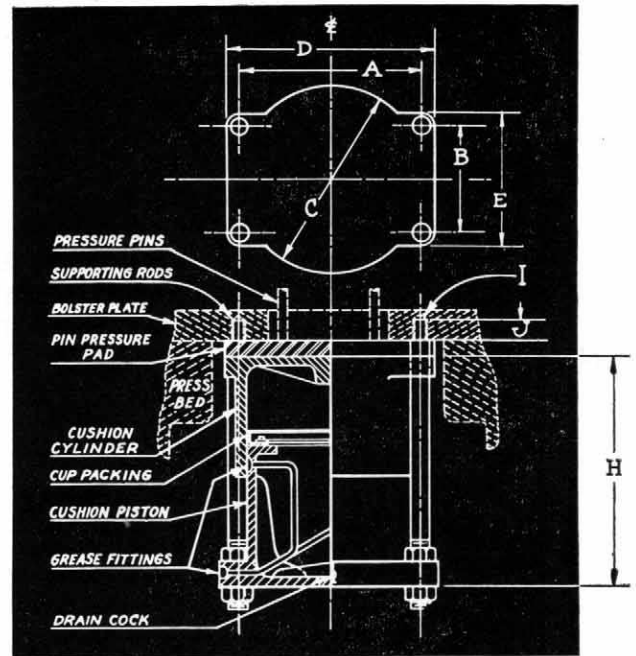

Fig. No. 15
(1) The die cushion should be mounted to the bolster plate so that it is centrally located with reference to the opening in the press bed. (See Fig. No. 15.) To accomplish this it is advisable to scribe the press bed opening on the under side of the bolster plate before removing it from the press. This outline will locate the relative position for attaching the die cushion.
(2) Remove the bolster plate and check both surfaces carefully to make sure they are flat and parallel. **THIS IS IMPORTANT!** If surfaces are bowed or not parallel, have them machined and then replace the bolster plate on the press and again scribe the opening on the underside of it.
(3) Lay out hole centers on the under side of the bolster plate according to dimensions "A" and "B" shown on Page No. 11. The tolerances on these holes must be held to a maximum of plus or minus 1/64", otherwise the mounting rods will not line up with the holes in the bottom flange of the die cushion unit. Drill and tap holes according to dimensions "I" and "J", making sure that the holes are square with the surface of the bolster plate. **(See P. 2.)** If blind holes are used, be sure a minimum length of full thread is tapped in the bolster plate.
(4) Bolt the bolster plate on to the press bed in its normal position.
(5) Screw the ends of the four mounting rods with the short length of thread into the bolster plate. Make sure that the shoulders of these rods are securely screwed up to the plate.